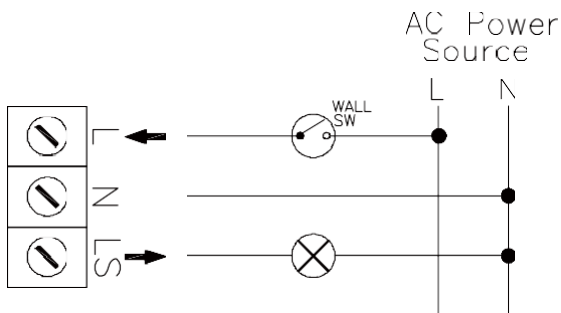

FIGURE 5
- (5) After installing the unit, install a wall switch adjacent to the power source (FIGURE 5).